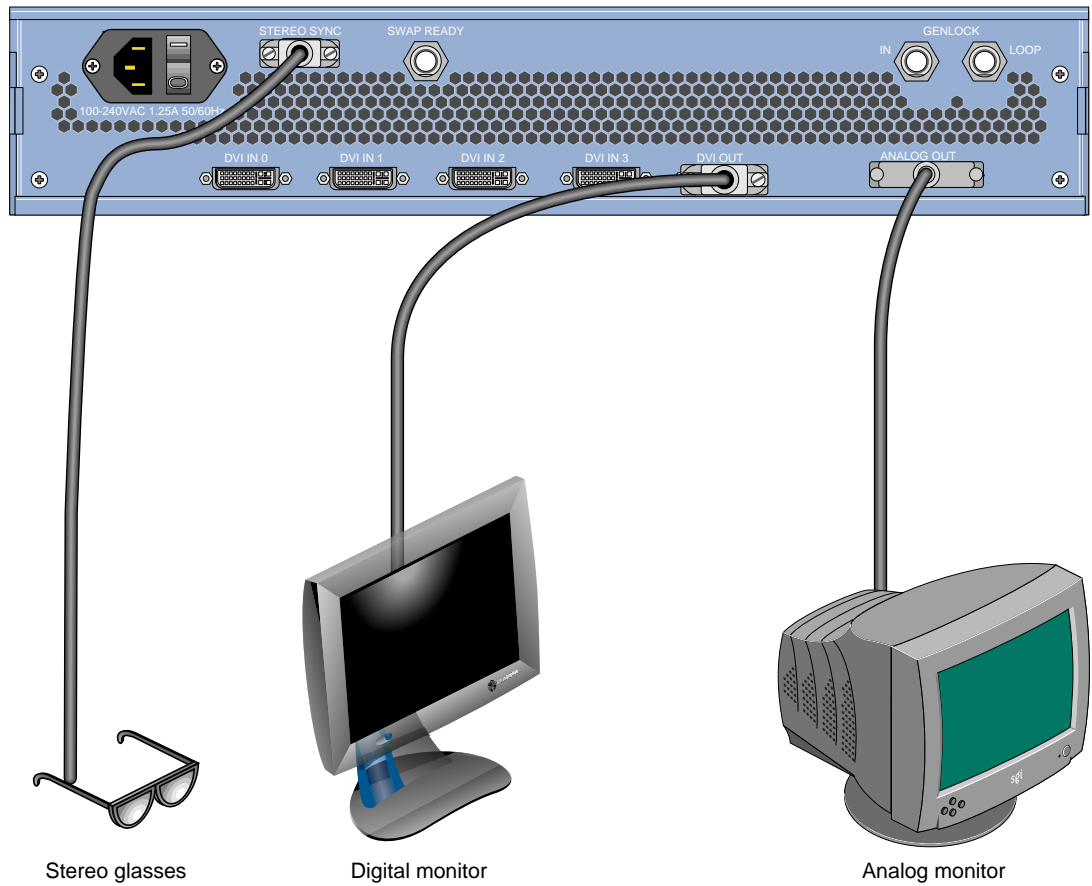

Figure 2-7 Connecting to Digital and Analog Monitors
7. As is applicable to your cabling installation, connect the following items to the compositor (as shown in Figure 2-7):